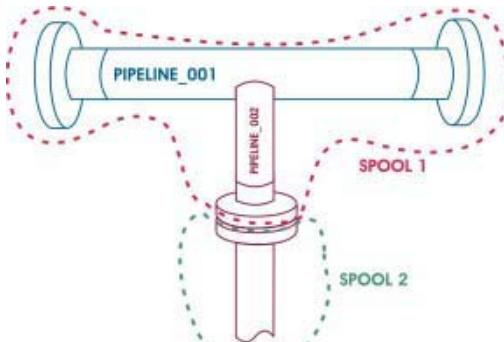

Figure 12: Spools
- **Include Stub-Ins with the Header Spool** - Specifies that a spool can include the stub-in pipe and all the parts of the stub-in branch until the first spool-breaking component appears, as shown in Figure 12.